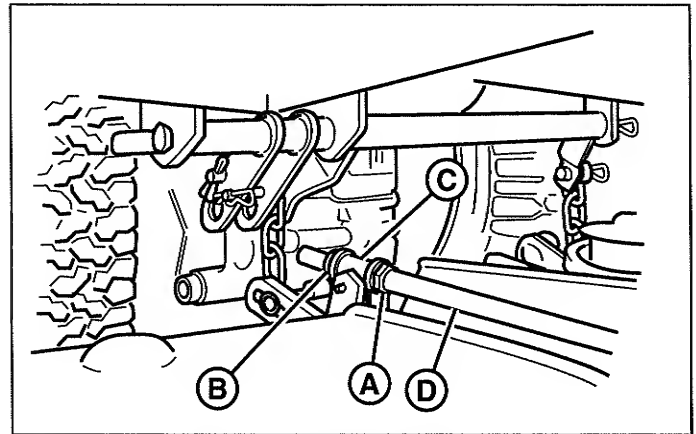

Figure 52. Leveling The Mower Front-To-Back
NOTE: 54" mowers have two adjustment rods (D, Figure 52) that should be adjusted simultaneously.
8. See Figure 52. To raise front of mower deck, loosen front nut (A) and turn rear nut (B) against bracket (C).
9. To lower front of mower deck, loosen rear nut (B) and bracket (C) will move backwards to lengthen rod.
10. Re-check measurement before tightening front nut (A) against bracket.